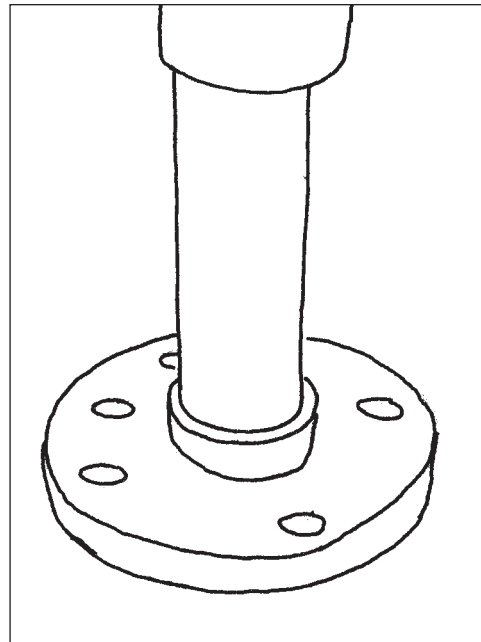

Figure 12
8. Using a suitable size socket and short extension, press the oil seal out of the bearing cap cover. Discard the seals. (Figure 12).